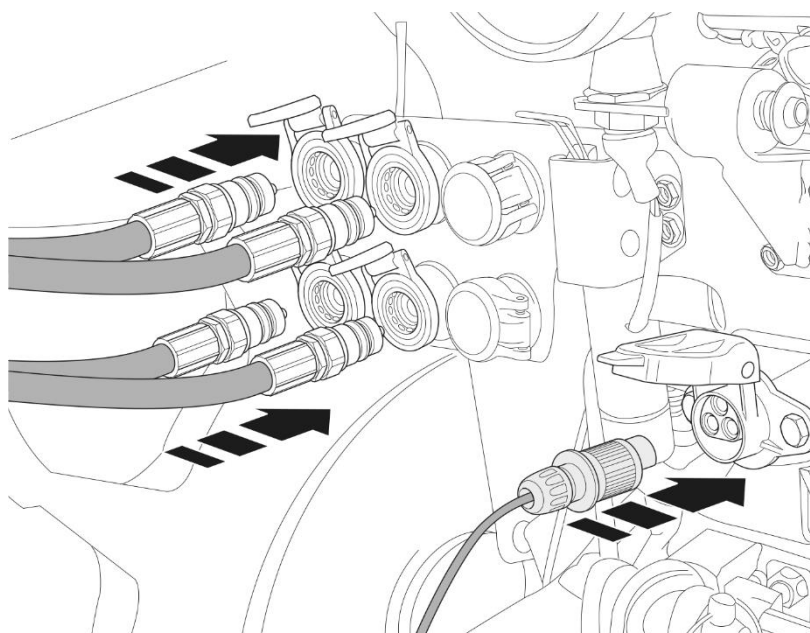

Figure 7
- 3.2.2.1 Connect the two hydraulic hoses of the mower to a pair of hydraulic services on the tractor (Figure 7).
- 3.2.2.2 If the machine is fitted with an optional inter-row disc, connect the two hydraulic hoses into an additional pair of hydraulic services on the tractor (Figure 7).
- 3.2.2.3 Connect the electric cable to the 12V outlet on the tractor (Figure 7), making sure that the electric cable does not interfere with the input PTO driveshaft and other moving parts.